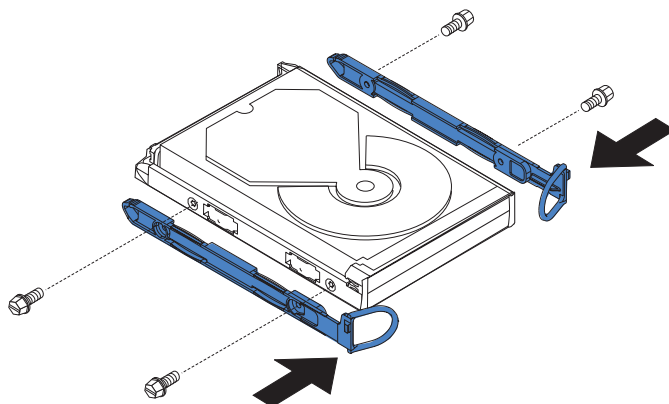

Figure 166. Attaching the rails to the SAN Volume Controller 2145-4F2 disk drive
1. Find the rails and screws that are shipped with the new disk drive and attach the rails to the disk drive, as shown in Figure 166.